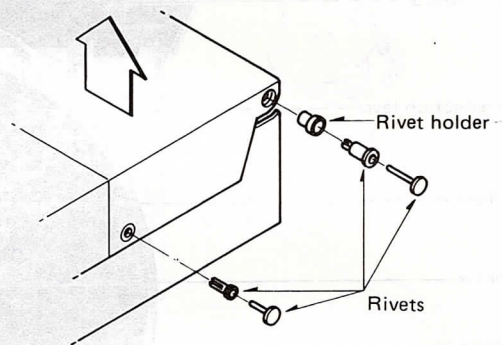

Fig. 12
2. Lift the dust cover in the direction of the arrow. (Fig. 12) Then the dust cover can be removed.